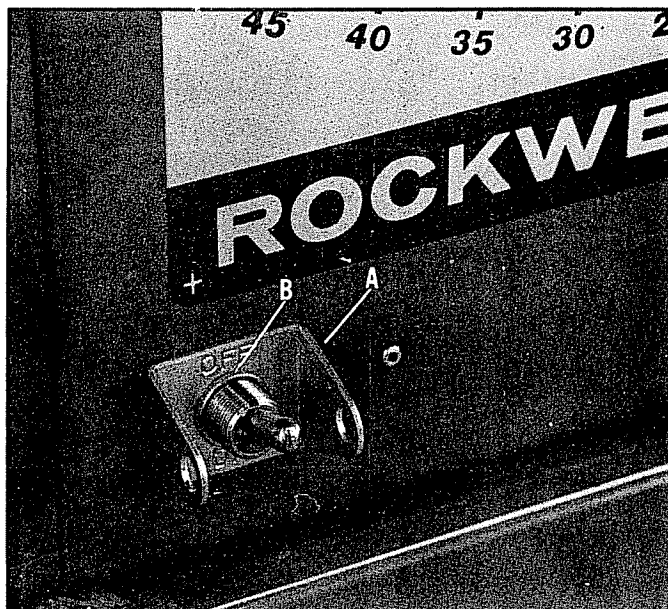

Fig. 8.
2. Place the switch plate (A) over the threaded extension of switch as shown in Fig. 8.
3. Assemble the round nut (B) Fig. 8, on the threaded extension and tighten slightly. Turn switch and switch plate until the word "off" is in the up position and tighten the round nut (B) securely. **CAUTION:** Before plugging in power cord, check the inside of the cabinet and make sure the cord is placed in such a position as to clear all moving parts.